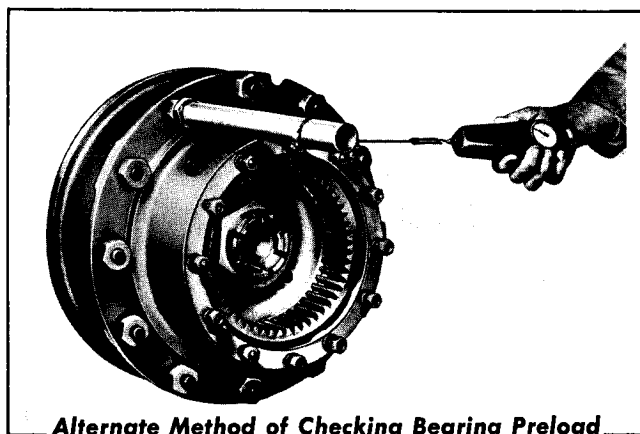
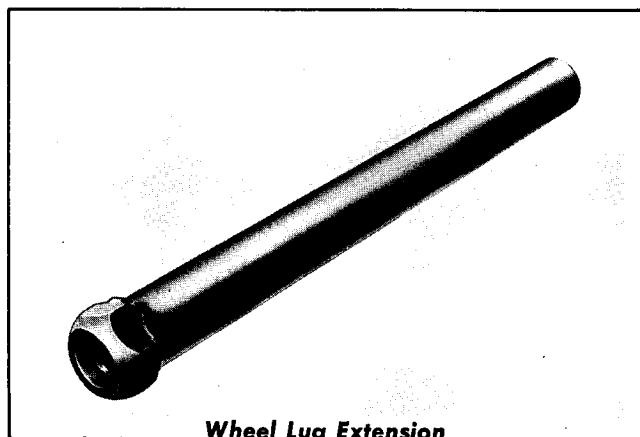

FIG. 63
FIG. 64
8. If it is not convenient to remove the wheels, check the wheel bearing preload torque as shown in Fig. 63. The extension (Fig. 64) permits a reading to be taken without interference from the tire.